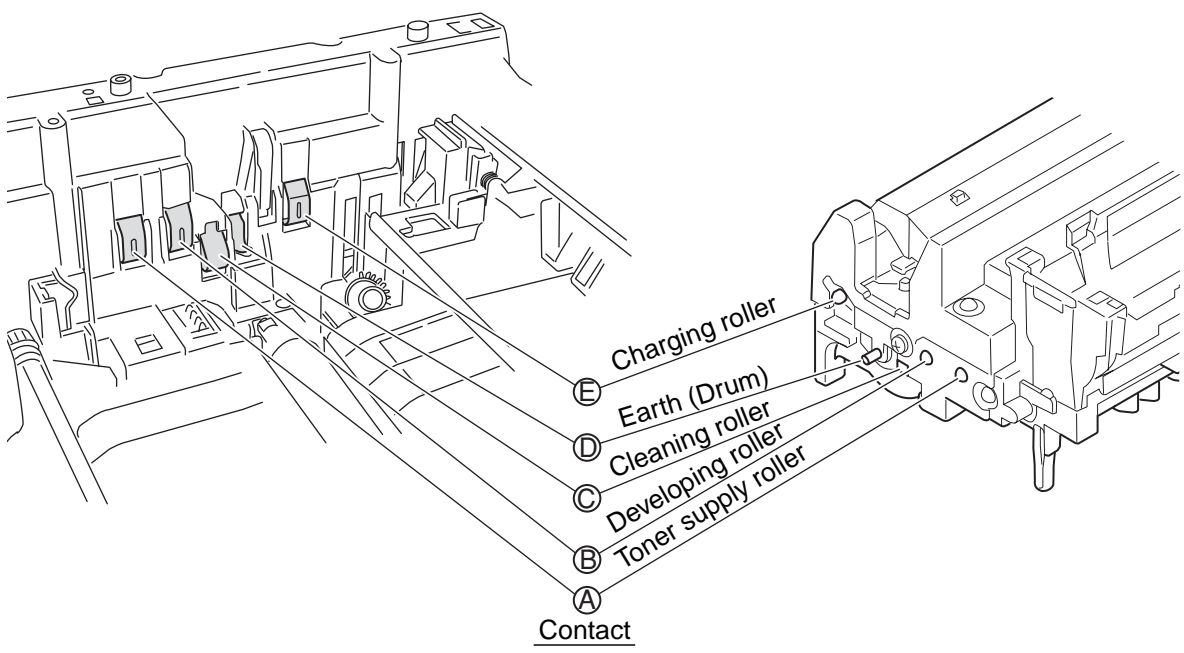

Fig 7.5.23
- ▼ Yes Are the contact of the developing roller and toner supply roller of the image drum cartridge appropriately connected to the contact assembly? (See Fig 7.5.23 (A) and (B))